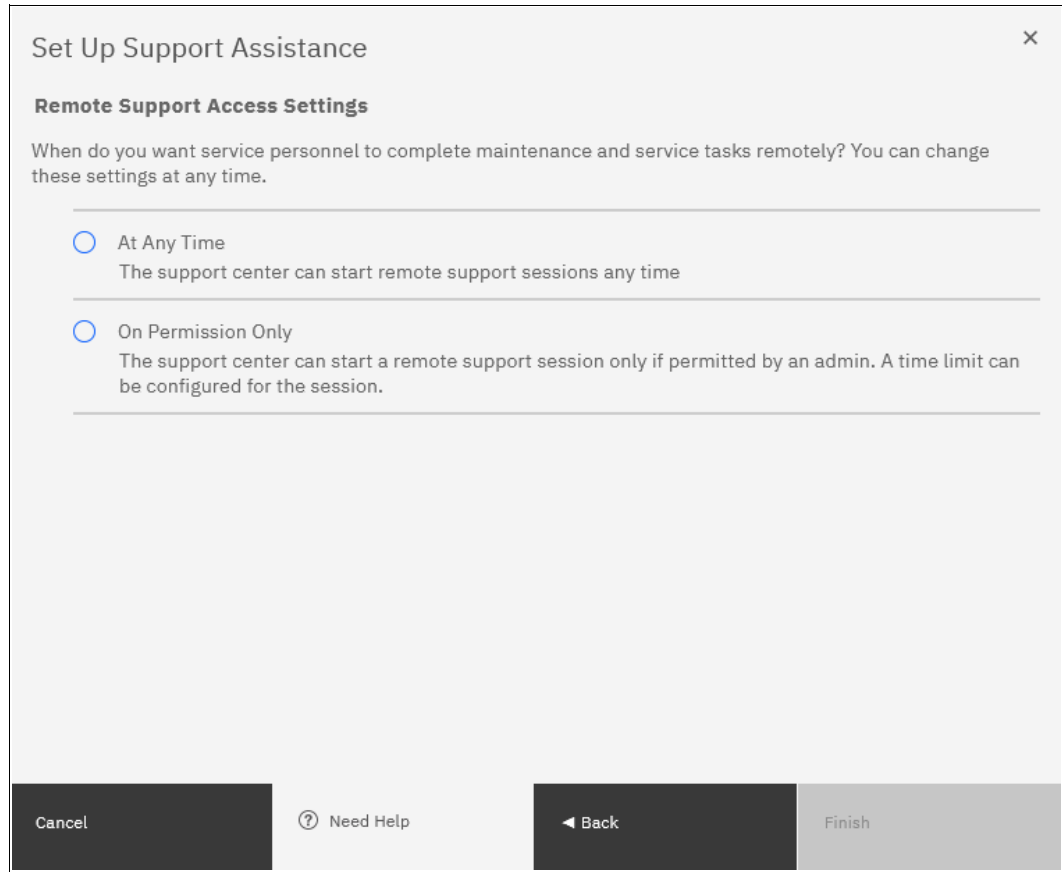

Figure 13-54 Support wizard access choice
1. Figure 13-54 on page 847 shows the first wizard window. To keep remote assistance disabled, select **I want support personnel to work on-site only**. To enable remote assistance, select **I want support personnel to access my system both on-site and remotely**. Click **Next**.
3. The next window prompts you about whether you want to open a tunnel to IBM permanently, which allows IBM to connect to your system **At Any Time**, or **On Permission Only**, as shown in Figure 13-54 on page 847. **On Permission Only** requires a storage administrator to log on to the GUI and enable the tunnel when required. Click **Finish**.